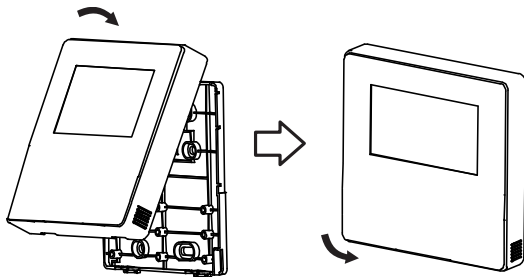

Figure 11
- 1) After adjusting the front cover and then buckle the front cover; avoid clamping the communication switching wire during installation. (Fig.11)